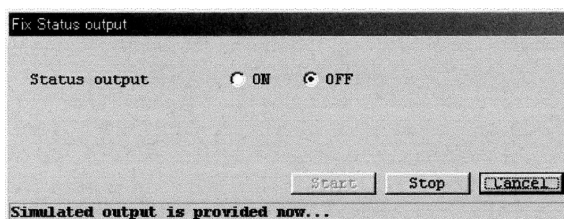

Fig.90
- ④ In response to clicking on "OK" button, a preselected simulated output appears. While this simulated output stays on, a message "Simulated output is provided now..." appears as shown in Fig. 90. To stop the simulated output, click on "Stop" button.